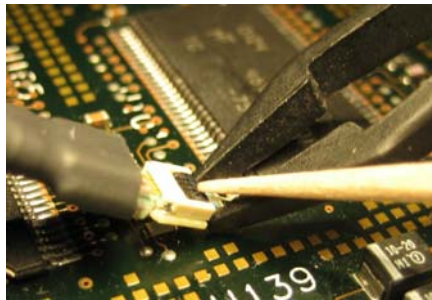

Figure 50 Use a Non-conductive Tool to Close the Latch
- 6 To make a measurement, connect a ZIF probe head to the ZIF tip. Open the tip's latch, insert the probe head into the ZIF socket, and close the tip's latch with a non-conductive tool. See Figure 50.